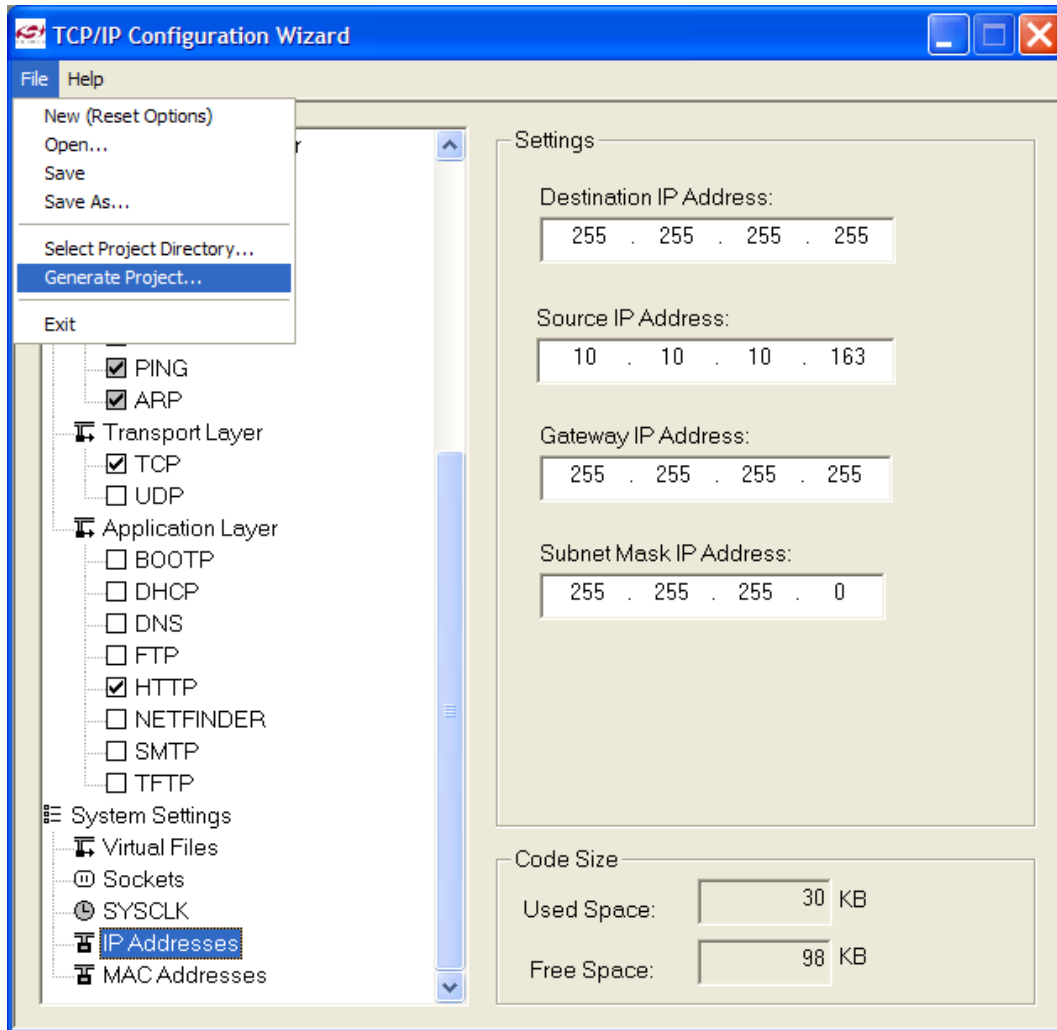

Figure 9. TCP/IP Configuration Wizard Project Generation
10. Generate a new project with supporting firmware by selecting **Generate Project** from the **File** menu (see Figure 9).
6. Generate a new project with supporting firmware by selecting **Generate Project** from the **File** menu (see Figure 9).